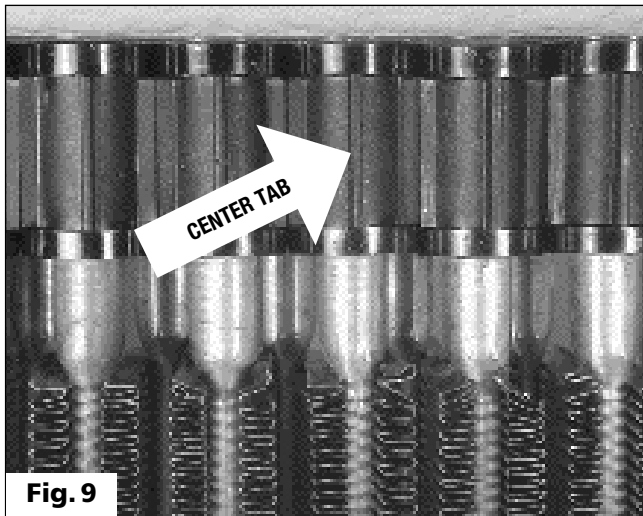

Fig. 9
STEP 5. Using a pair of pliers, reinstall the tube retainer clips P/N 105753 on the inner rows of tubes positioning the center tab towards the front of the cooler. The retainers on the outermost (front) row of tubes can be installed after all the tubes are in place. **See Fig. 9** for proper positioning of the retainer clips.